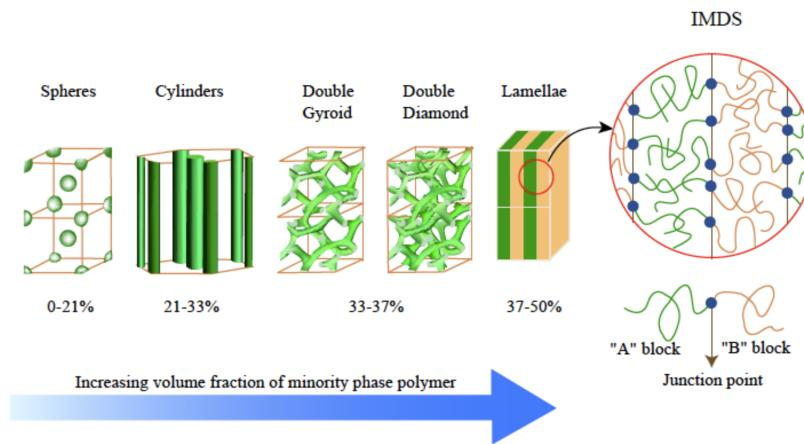

Figure 2.13: Microphase morphologies in diblock copolymers.
- In contrast to Figure 2.13, 40-60% gets you a lamellar state. This accounts for the fact that going on either side of 50% is equivalent.